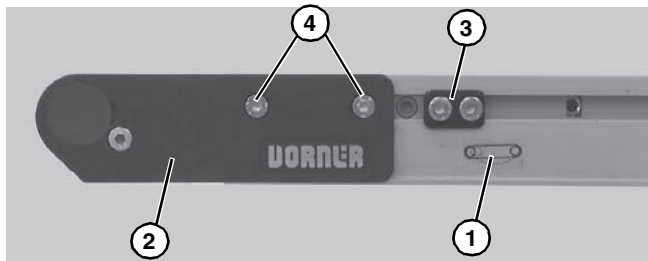

Figure 18
3. On tension end of the conveyor, identified with a  label (**Figure 18, item 1**), push in head plate assembly (**Figure 18, item 2**): On both sides of conveyor, loosen and move cam tracking assemblies (**Figure 18, item 3**) (if equipped) away from head plates, then loosen fastening screws (**Figure 18, item 4**) and push head plate assembly inward.